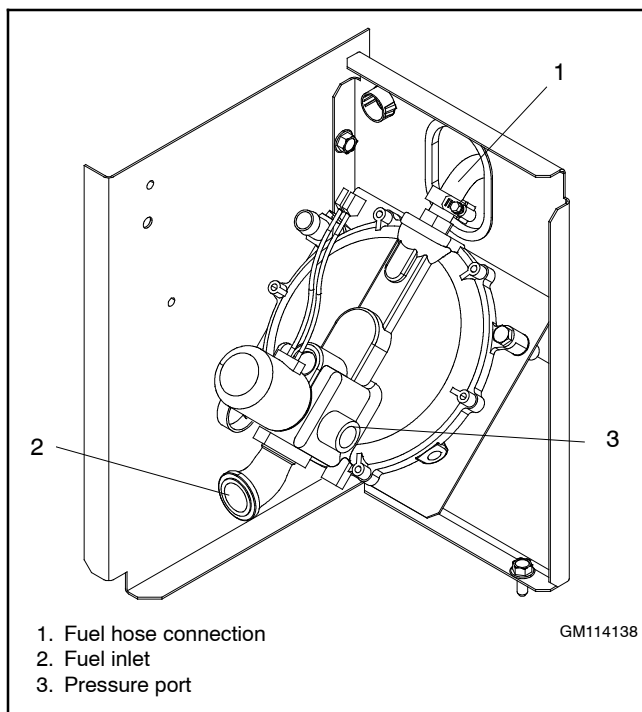

Figure 1-17 Revised Fuel System
5. Remove the hose clamp and fuel hose from the hose fitting. See Figure 1-17.
A pressure port is provided on the fuel regulator. See Figure 1-17. Follow these steps to check the fuel pressure at the regulator, if necessary.